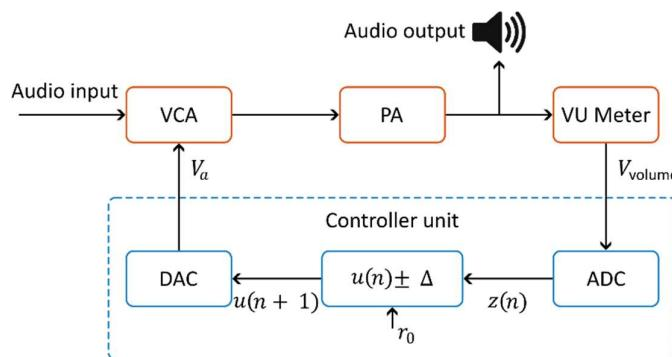

Fig. 9.1. Block diagram of the automatic volume-controlled audio amplifier system.
The automatic volume control for the audio amplifier is a closed-loop system as shown in Fig. 9.1. The gain control in volume-controlled amplifier (VCA) acts as the actuator, adjusting the signal amplitude that is fed into the power amplifier (PA). The volume unit meter (VU Meter) serves as the sensor, measuring the output audio signal level. A control algorithm executed by the computer processes the feedback path. A simple step-up-down controller can be implemented in a computer program. Ideally, the automatic volume control should maintain a constant audio output level regardless of the input signal level by increasing or decreasing the VCA gain when the audio signal level is below or above the set point.